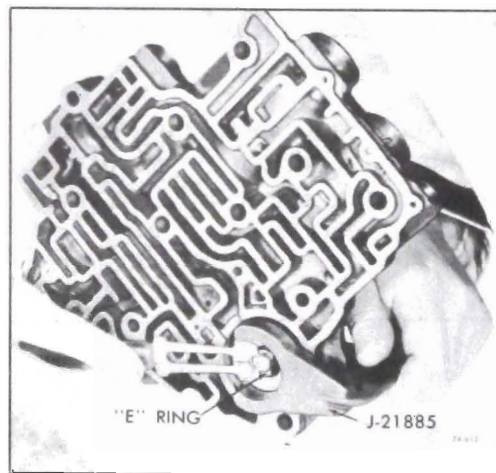

Figure 76-612
2. Install special Tool J-21885 and compress spring and piston. Secure with retaining "E" ring. See Figure 76-612.